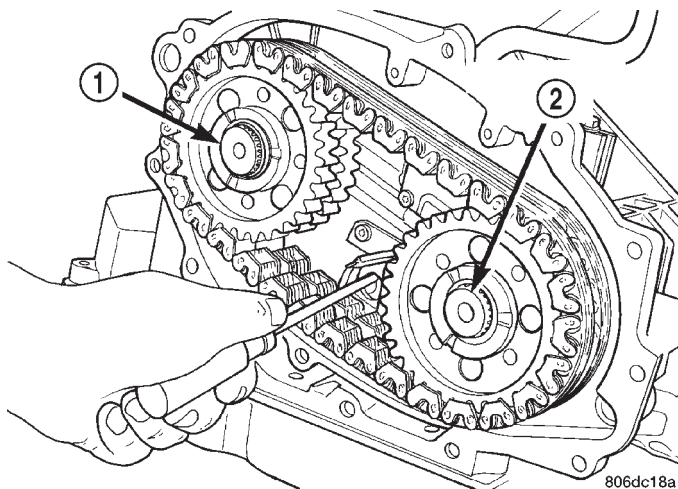

Fig. 439 Screwdriver Placement
- (1) Insert a screwdriver into the 18 mm hole with the screwdriver **ABOVE** the chains (Fig. 439).